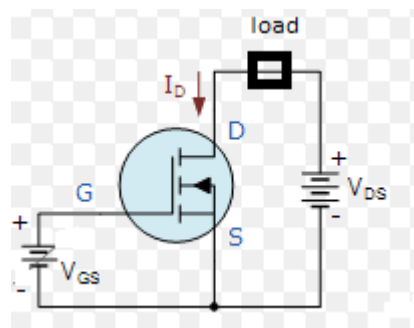

Figure 10: Circuit for plotting  $I_D$  vs  $V_D$  and transfer characteristics of p-channel JFET (J176)
1. Connect the circuit as shown in figure 10. Keep  $V_{DS} = 10$  V constant.
1. Connect the circuit as shown in figure 10. Keep  $V_{GS} = 5$  V constant.